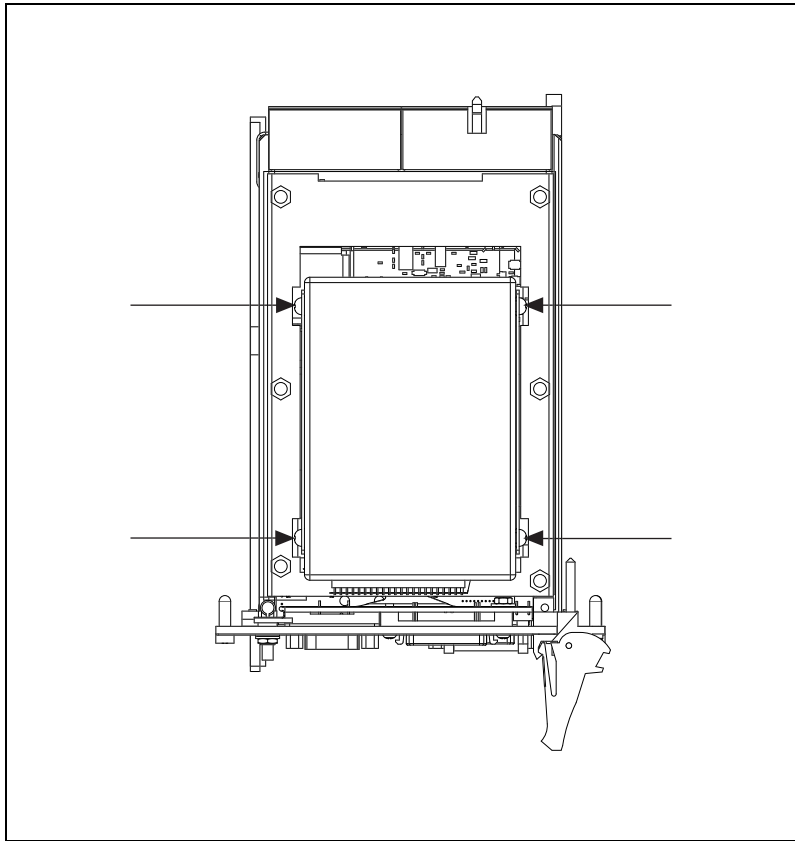

Figure 1. Hard Drive Screws
1. Place the controller on its side as shown in Figure 1.
2. Hold the hard drive firmly in place as you remove the 4 screws that secure the hard drive to the controller. The screw locations are indicated by the arrows shown in Figure 1.
6. Secure the hard drive to the controller with all four mounting screws. These screws are shown in Figure 1.